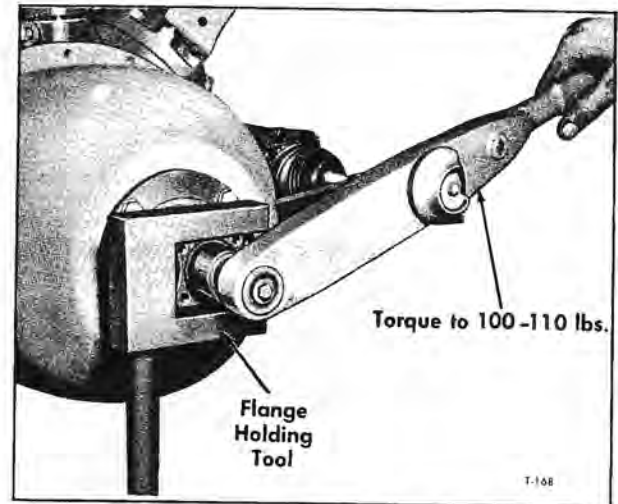

Figure 104—Replacing Drive Shaft Flange Nut
1. Using a flange holding tool (fig. 104), remove nut (17) from drive flange (16). Remove flange and flange key (24).
2. Using a suitable wrench, turn ball stud (10) and lock washer (11) from clutch housing. Remove stud with clutch release fork (8). Slide release bearing (28) from retainer (25). Remove retainer spring (9) holding ball stud in fork.
3. Remove four bolts (18) and lock washers (19) which attach main bearing carrier with shaft as a unit from housing.
4. Remove four bolts (27) and lock washer (26) attaching main bearing retainer (25) to main bearing carrier. Remove retainer and carrier from clutch shaft (22).
5. Using snap ring pliers, remove bearing retainer ring (20) from clutch shaft. Using arbor press, force main bearing assembly (21) from shaft.
8. Install compressor drive shaft flange (16) with key (24) to clutch and secure with flange nut (17). Using flange holding tool shown in figure 104, torque flange nut to 100-110 foot-pounds.